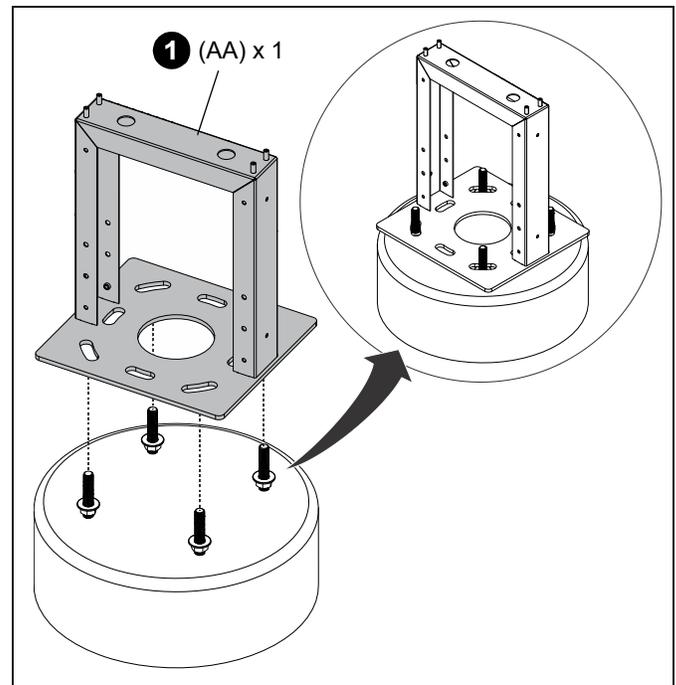

Figure 3
1. Place the base (AA) over the wedge anchors (BA). The base will rest on the hardware installed to the threaded rods or wedge anchors. (See Figure 3)
2. Install the frame(s) to the base using two washers (AF), four 10mm lock washers (P), and four 10mm nuts (S). (See Figure 3)